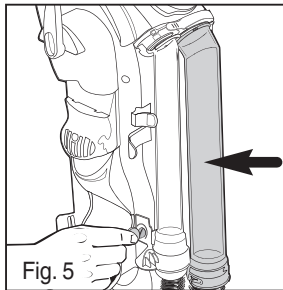

Fig. 5
- 5) Push large tube toward back, pull down and away from vacuum body (Fig. 5).